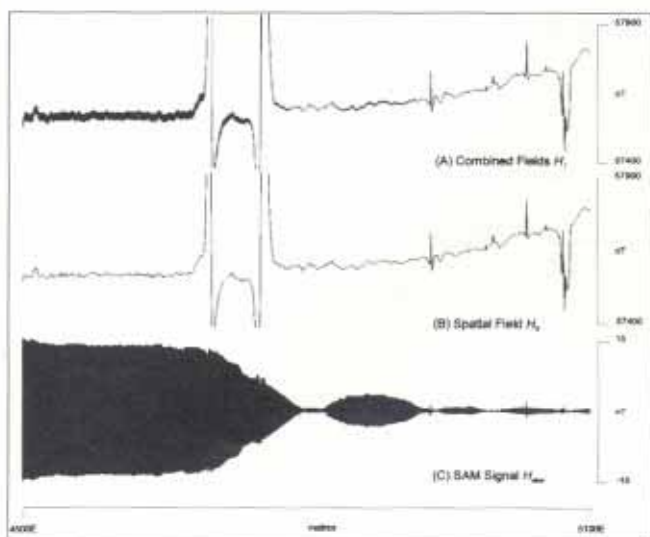

Figure 8. (A) A sample raw data profile recorded over a conductor; (B) The spatially-varying magnetic field data set; and (C) the SAM signal.
A simple walk-through of the recorded and processed signals given in Figures 8 and 9 gives a guide to the path used to derive the HDM and TFMMR data.
Figure 8(A) gives an example of the time-varying, total magnetic field intensity recorded for a single traverse over a conductor. This is the raw signal and is fundamentally made up of the spatially varying magnetic field (B), and the modulation on this component brought about by the transmitted signal (C). With the rapid sampling rate of the TM-4, these components are spectrally distinct and can therefore be separated without aliasing through Digital Signal Processing. Hence, (B) gives the HDM output and (C), the SAM signal, is further processed to deliver the other geophysical parameters required.